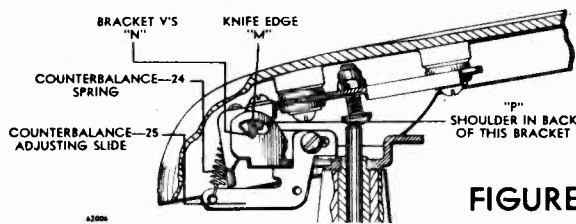

FIGURE 18. CUTAWAY END VIEW
4. EXCESSIVE CLEARANCE at tone arm hinge bracket. (See Fig. 18.)